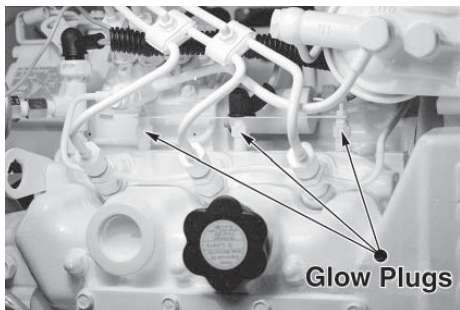

Figure 17: Glow plugs.
2. To check the glow plugs, loosen the current carrying flat wire between the plus-poles of the glow plugs (Figure 17). Connect a D.C. test bulb between the plus-pole of the battery and the plus-pole of the glow plug. If the bulb lights up, the glow plug is functioning properly.